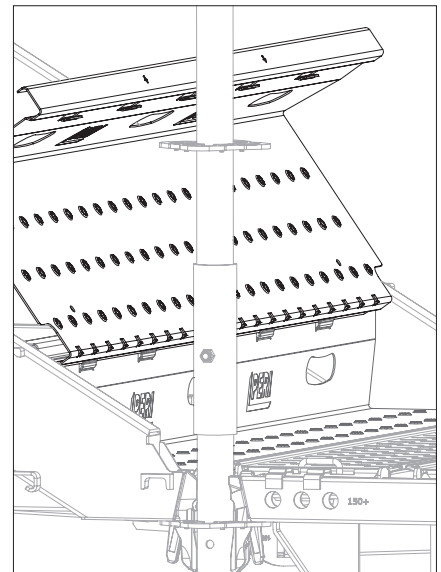

Fig. A4.02a
2. Lift the step between the stair stringers and place it on the lugs of the previous step. (Fig. A4.02a)